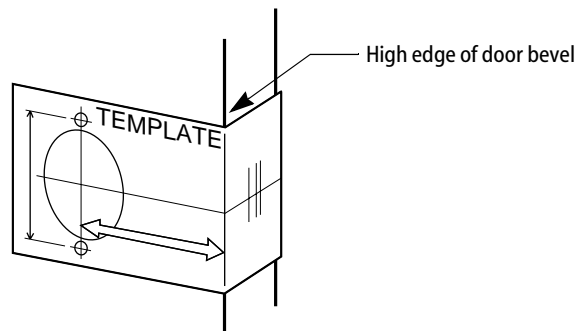

Figure 2—Positioning the template
- 1 Fold the template and place in position on the high edge of the door bevel as shown in Figure 2.